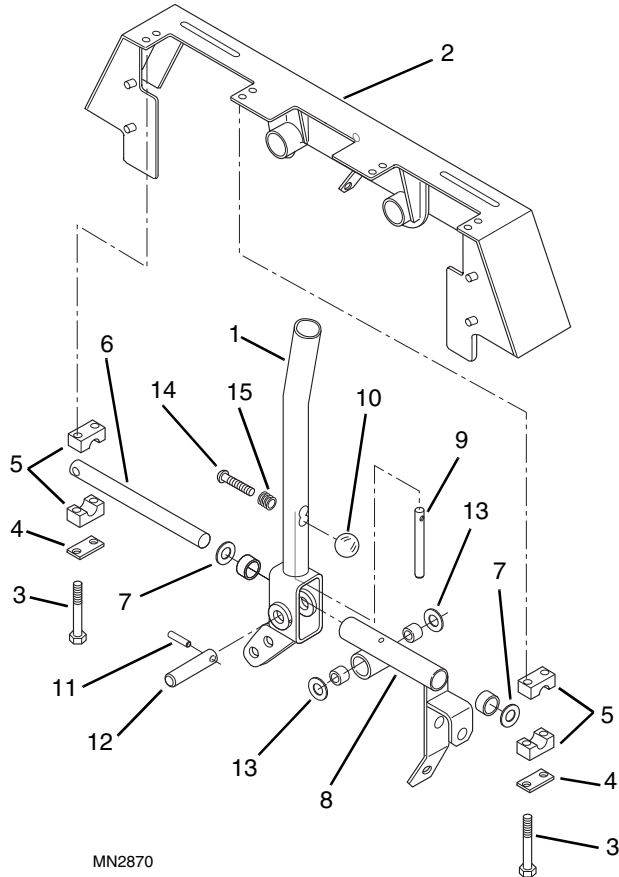

Figure 7-50 Travel/Steering Lever Disassembly
1. Install the lever lock pin (Fig. 7-50, 9) into the bottom of the right travel/steering lever (1), and secure by installing the slotted capscrew (14) and spring (15) through lock pin (9), threading fully into knob (10) and tighten.
2. Position the 4-way lever (Fig. 7-50, 8) into the travel/steering lever (1), and secure with pivot pin (12), shims (as required) (13), and roll pin (11).
3. Install pin (Fig. 7-50, 6) into the 4-way pivot (8) and add shims (as required) (7) on each end of the pin. Secure the assembly into the crossmember using half clamps (5), clamp covers (4), and capscrews (3) on both ends of pin (6).